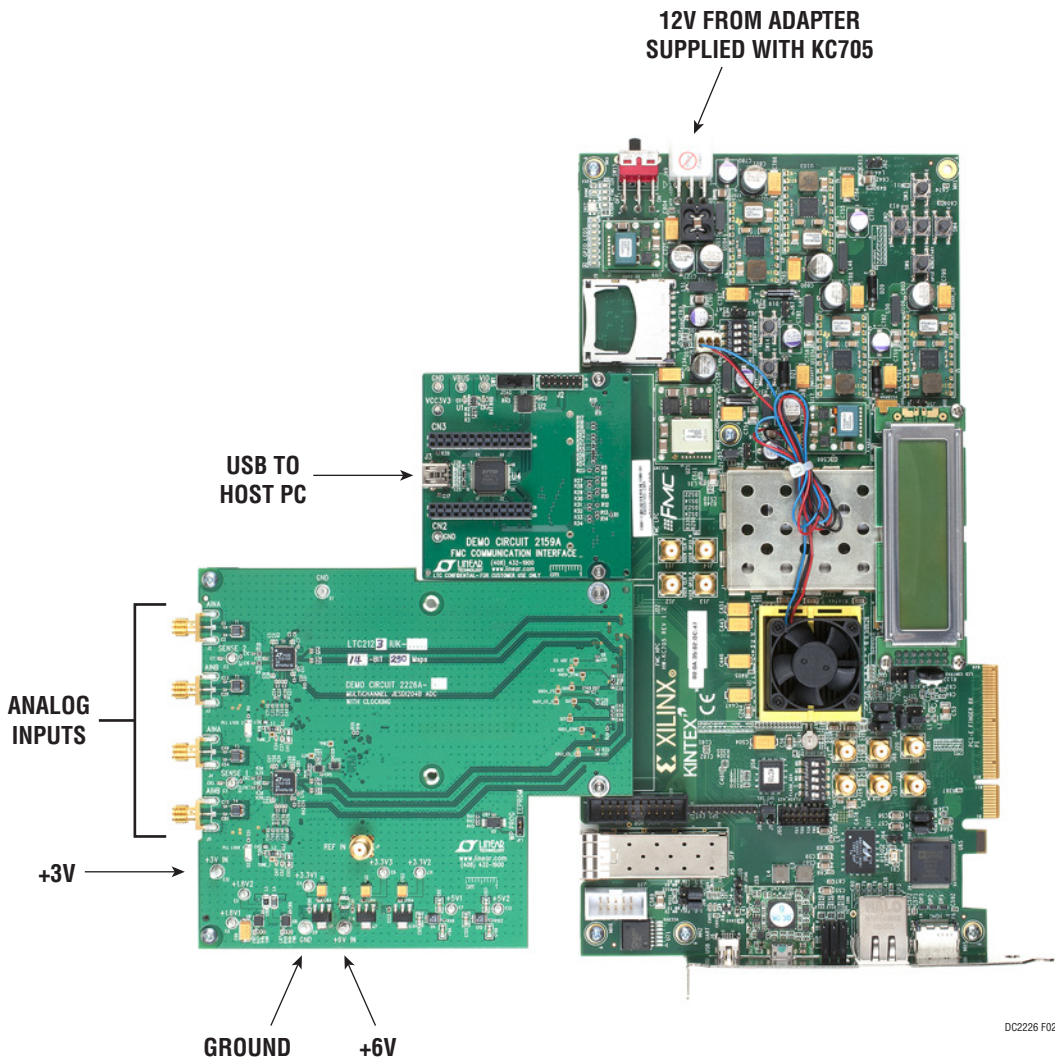

Figure 2. Basic Connections
- 4) Refer to Figure 2. Power up the KC705 board using the adapter supplied with the KC705. If the board was obtained from Linear Technology as part of a kit, the correct bitfile was installed into the onboard configuration PROM.
- 7) Apply 6V and 3V to the turret posts as shown in Figure 2. Both supplies should be low-noise benchtop supplies, with current limit set to 2A.